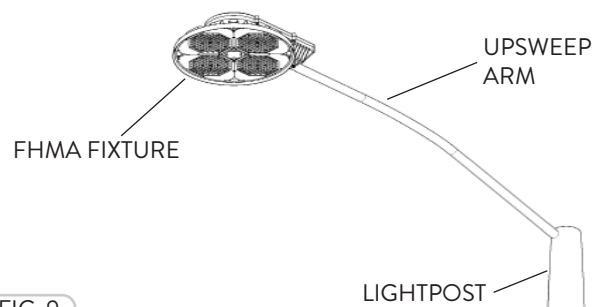

FIG. 9
- 4 The FHMA fixture in a typical setting with a Light Post and a Roadway Upsweep Arm (Fig. 9).